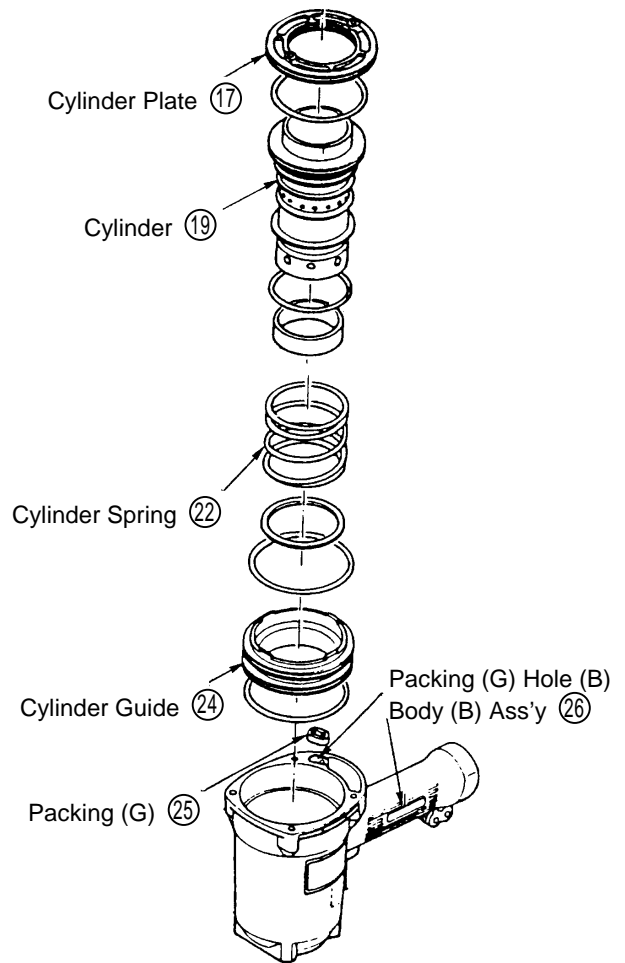
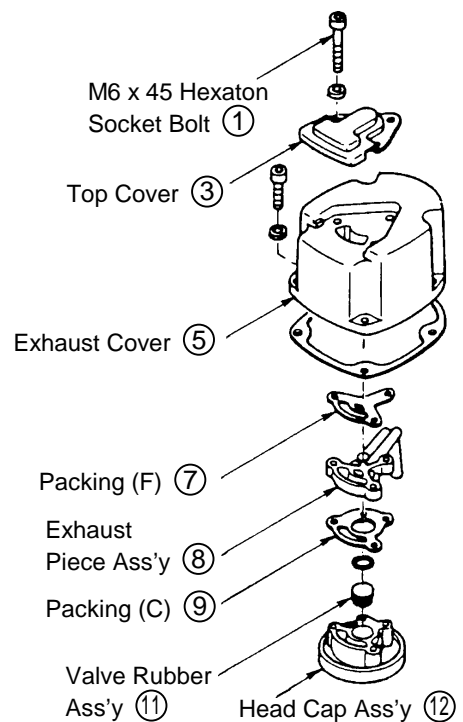

Fig. 11 Main body output disassembly
Fig. 12 Disassembly of main body, upper part:
The Cylinder (19), Cylinder Spring (22), and other components which constitute the Output System (see Fig. 11) can then be removed.
- As it should be difficult to remove the Cylinder (19), first remove the Tail Cover (38) as described in section 1-1-(1), and push the Cylinder up-wards and out from below.
- Ensure that Packing (G) (25) is properly fitted to the shape of its matching hole in the Body (B) Ass'y (26), properly aligned with the assembly as shown in Fig. 11, and properly contacts the base of the Exhaust Piece Ass'y (8) (see Fig. 12).
(3) Head Cap Ass'y (12) Exhaust Piece Ass'y (8), and Related Parts:
- Remove the Exhaust Cover (5) as described in section 1-1-(2).
- Loosen the three M6 x 45 Hexagon Socket Hd. Bolts (1) and, as illustrated in Fig. 12, remove the Head Cap Ass'y (12) Valve Rubber Ass'y (11), Exhaust Piece Ass'y (8), Packing (C) (9), and Packing (F) (7).